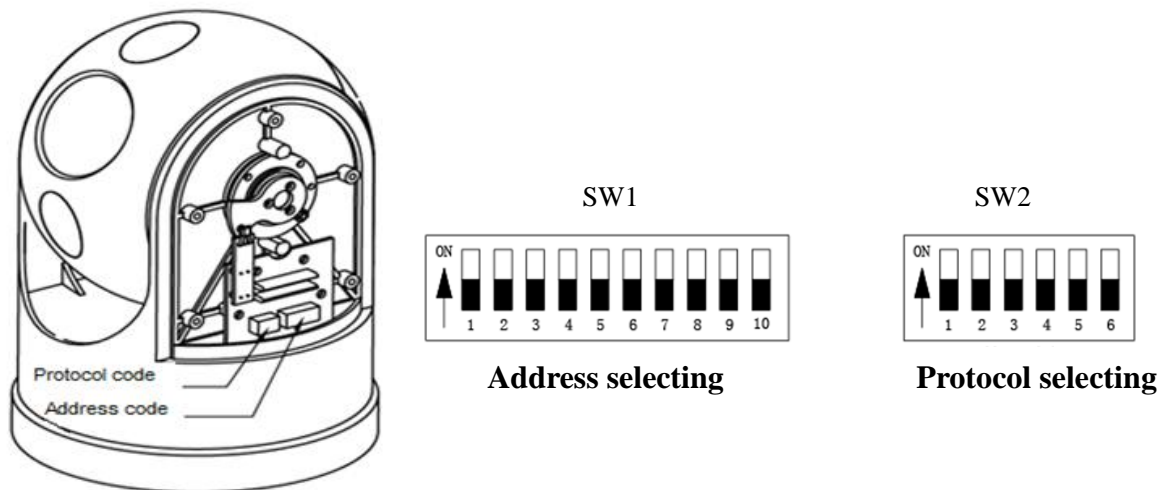

Figure 1
Before installing, please ensure the control communications and baud rates of the dome systems, then setup the dome SW2 code as the same as the system, SW1 is used to set address of the dome camera, SW2 is used to set the protocol of communication and the baud rate used by the dome camera. And the code switch as Figure 1 shows.
**2. Setup of Coding Switch of Dome Camera.** As figure 1 shows, J6(SW1) is used to set dome address, address of dome camera from 1~1023. The coding switches from DIP-10 to DIP-1 are equivalent to a 10-bit binary digital. DIP-10 is MSB while DIP-1 is LSB. The state “ON” of each bit means 1 while “OFF” means 0. Following table shows the States of Coding Switches.